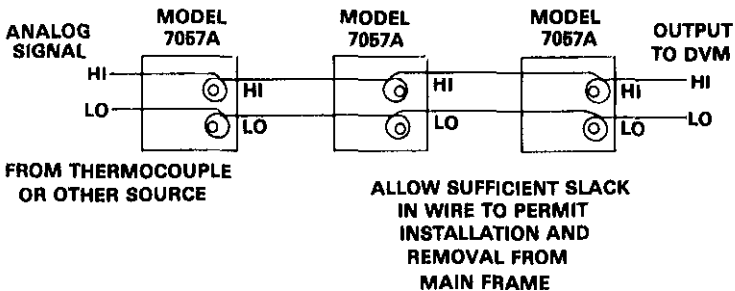

Figure 4. Typical Multiple-Channel Analog Connections
6. For scanner systems using two or more plug-in boards output HI and LO on all Model 7057A plug-in boards should be made using continuous copper wires. This ensures that the number of copper-to-copper junctions is at a minimum and therefore unnecessary thermal effects are avoided. Figure 4 shows the method of continuous board-to-board connections.